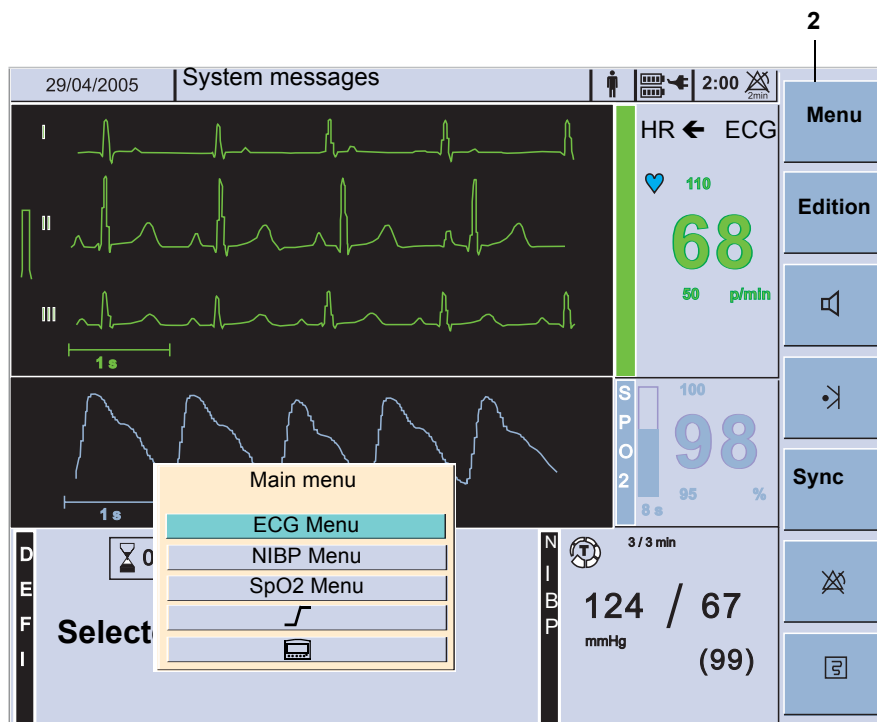

Fig. 3.5 Display with main menu
1. Press the navigation button (1). When the button is pressed twice, the main menu is directly opened and step 2 is dropped.
2. The main menu is opened by pressing the **Menu** softkey (2). The main menu is displayed. (See Fig. 3.5)